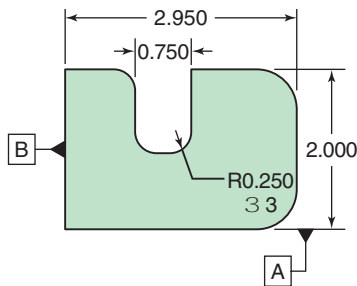

Figure 20-26 Select the best cutter from the list of Problem 3.
3. Using Fig. 20-26, to profile mill this part select the best mill cutter from these diameters: 0.25, 0.375, 0.500, 0.625, 0.750, and 1.00 in.